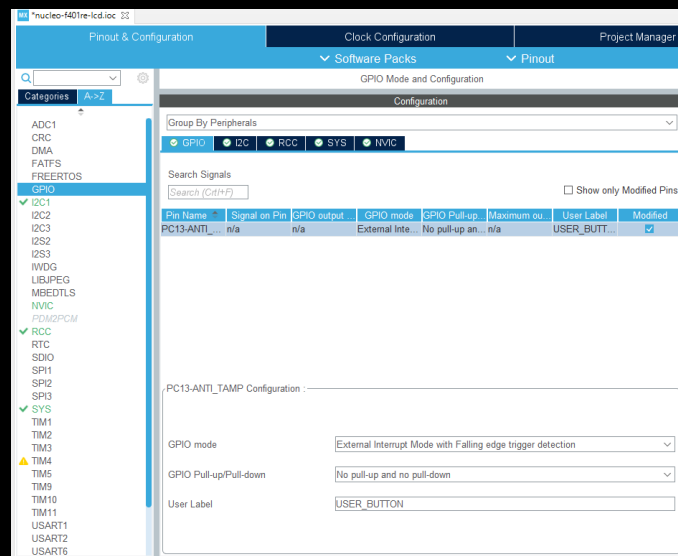

Figure 13: Modify GPIO Mode.
2. In your “Pinout & Configuration” window, select **GPIO** from the left sidebar. As shown in Figure 13, click on PC13 pin in the list, then change the GPIO mode to “External Interrupt Mode with Falling edge trigger detection”, and give a recognizable name in User Label.